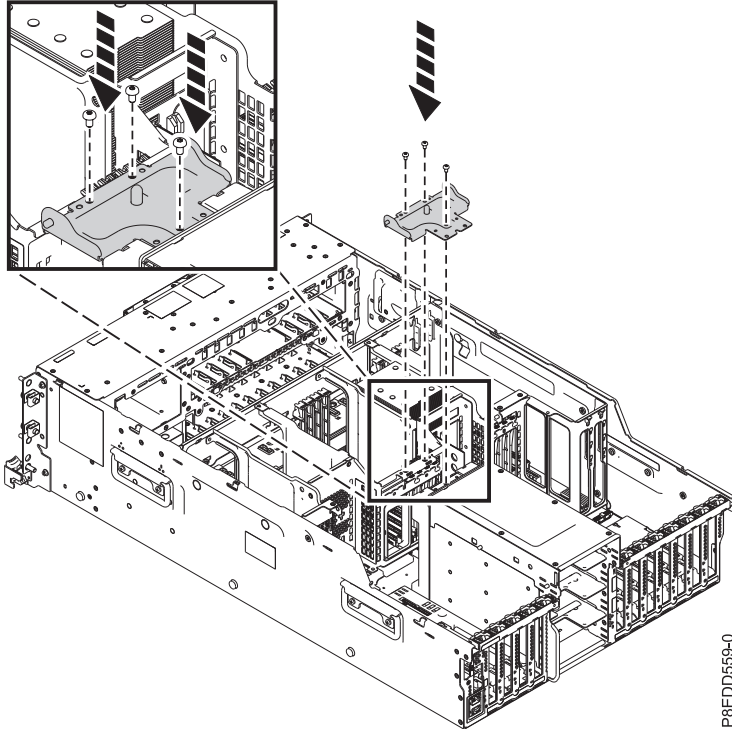

Figure 73. Installing the top cover attach bracket
- d. Install the top cover attach bracket. Then, install and tighten the three screws that secure the top cover attach bracket by using a T-10 Torx driver, as shown in Figure 73 on page 74.